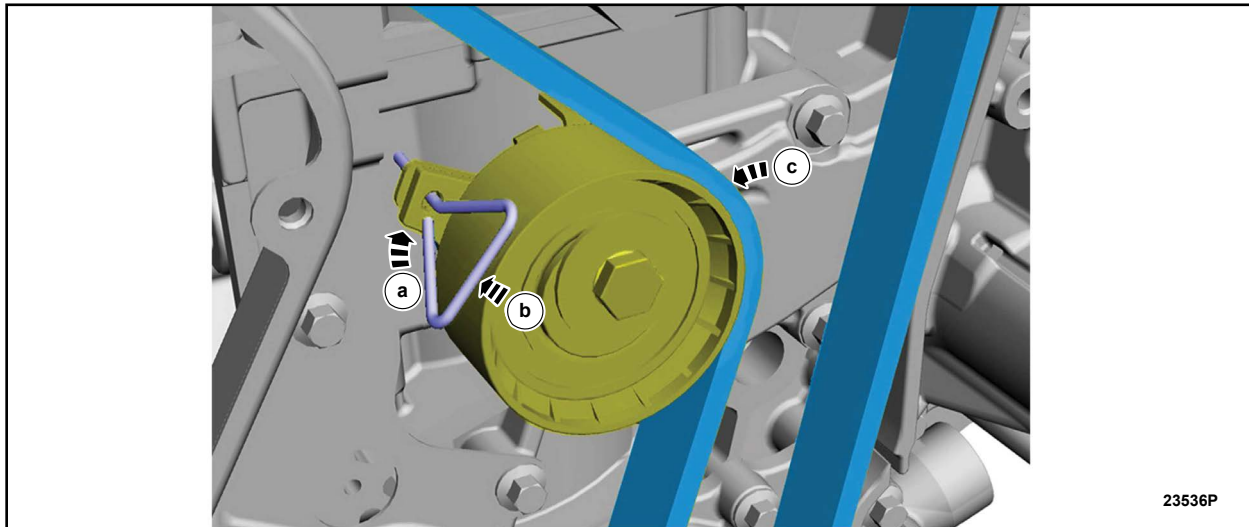

FIGURE 17
23. Remove the engine timing belt. See Figure 17.